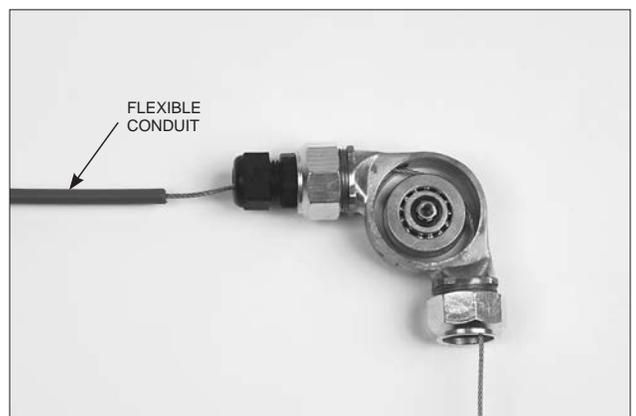

FIGURE 5-67
6. Push the wire rope into the flexible conduit. See Figure 5-67.